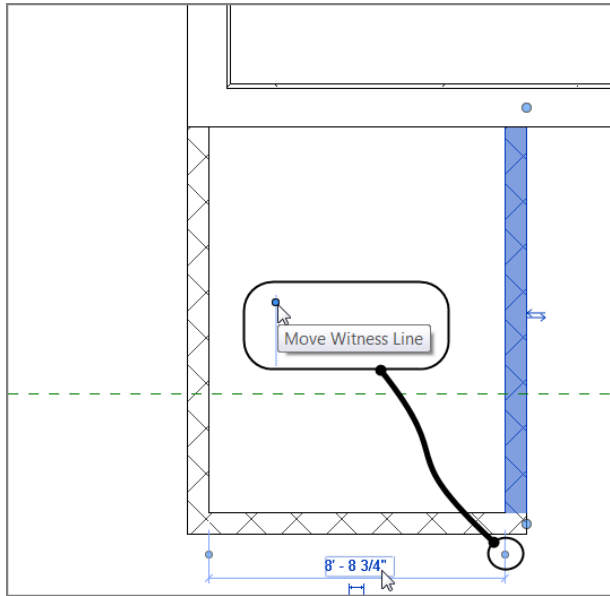

FIGURE 2.23: Temporary dimensions can be adjusted to measure from different wall faces by picking the witness-line grip.
1. Select the right, vertical CMU wall. A blue temporary dimension appears, as shown in Figure 2.23.